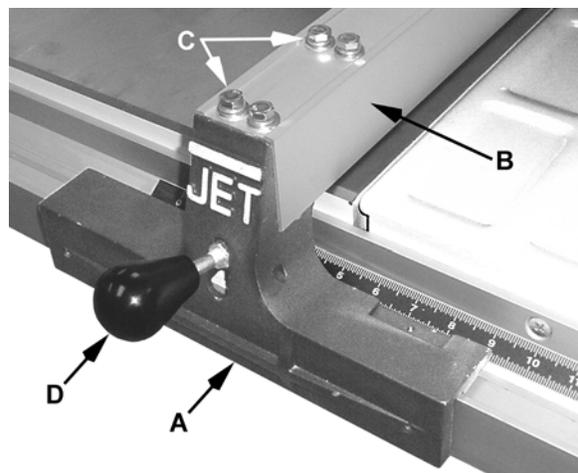

Figure 26
1. Place fence body (A, Fig. 26) into the fence (B, Fig. 26).
2. Install four bolts (C, Fig. 26) with flat washers and lock washers. Hand tighten.
3. Place the fence assembly on the guide rails, slide to the nearest miter slot and clamp the handle (D, Fig. 26) to lock.
5. Tighten the four bolts (C, Fig. 26).